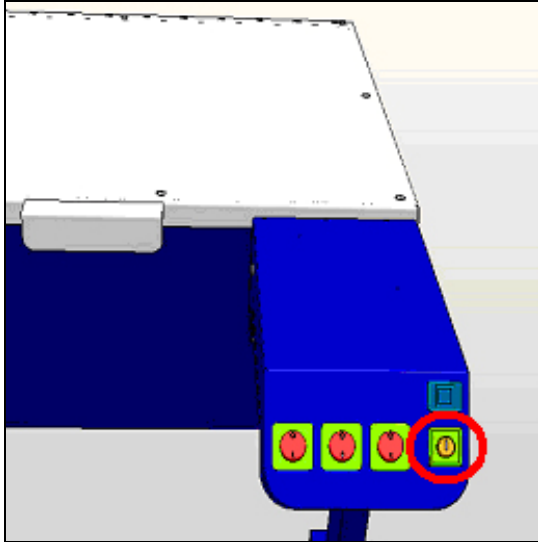

Figure 46: Activating the detachable-key switch
6. To switch on the lasers in the supply unit, activate the detachable-key switch on the main switch board (see Figure 46).